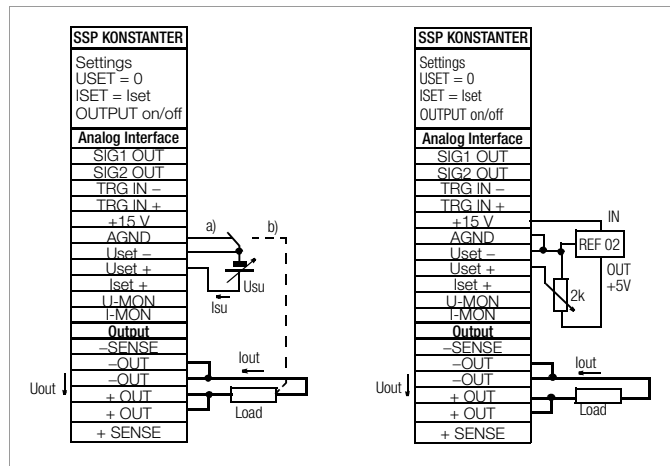

Figure 5.4 Wiring for Controlling Output Voltage with External Voltage / External Potentiometer
- If the **reference point** of control voltage **U_{su}** is connected to the negative output pole at the load side, the inverting input must be connected to this point (**connection b** in Figure 5.4).
- If **control voltage** is isolated from the **output**, connect **Uset-** to **AGND** (**connection a** in Figure 5.4).
- If **remote adjustment of output voltage** is to be accomplished by means of a **potentiometer**, wiring can be laid out as shown in Figure 5.4.